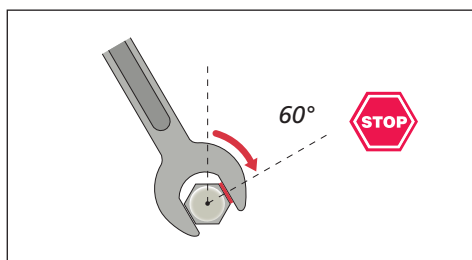

Figure 4. Tightening of the SilTite™ column nut
6. Reattach the restrictor to the column flow splitter and finger tighten the nut. Use a wrench to tighten it another 60°. (Figure 4)